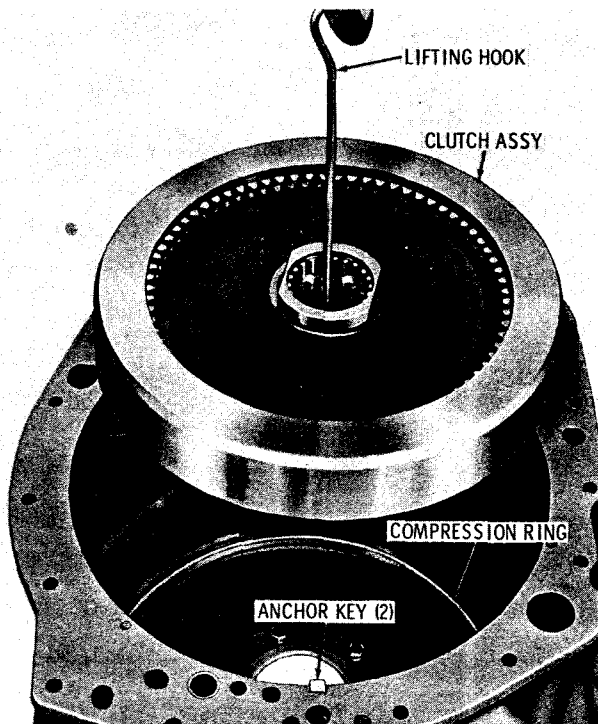

Fig. 5-37. Removing low-range clutch assembly
(16) Using the special lifting hook (refer to para 4-3a), remove the low-range clutch assembly (fig. 5-37). Remove the two anchor keys. Remove and discard the compression (crush) ring. Refer to paragraph 6-20 for low-range clutch rebuild procedures. Refer to paragraph 6-21 for transmission housing rebuild procedures.